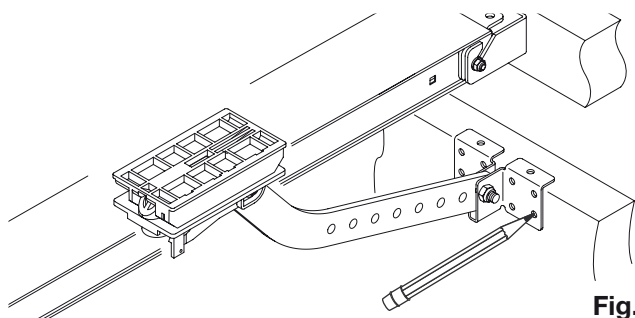

Fig.27
10) Release the drive mechanism, pulling the cord down in a way to free the drive unit driving bracket - figure 27.
11) Make the racket rest at the upper edge of the leaf, mark the drilling points for fixing as indicated in figure 27.